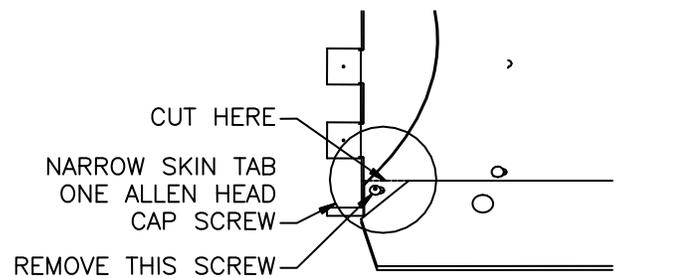

Figure 4. Second style Poly Power-V G10467
5. Second style Poly Power-V blade skins have a narrow tab that is located at the center of the plow. One Allen Socket Head Cap Screw is located on this tab. This Allen Socket Head Cap Screw must be removed for Formed Cutting Edge installation. See Figure 4. Grind as described in Step 2.